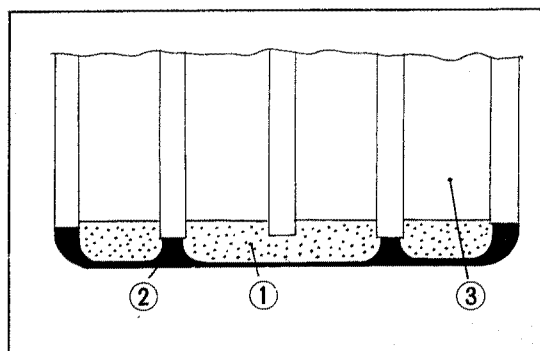

Fig. 162 ① Flaked paste ② Bottom ③ Cathode plate
- 3) Check the poor battery connection due to corrosion of the connector and terminal, flaking of the paste from vibration and sulfation. The flaked paste remains on bottom remarkably, replace with new one. (Fig. 162)